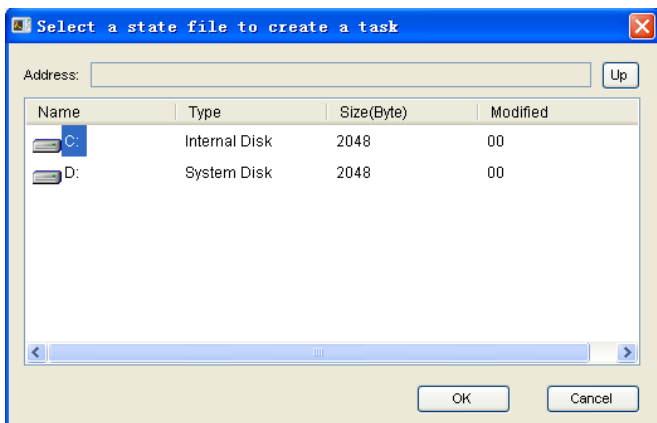

Figure 4. Select a state file
- Double click the "Driver C" in the "Select a state file to create a task" dialog box as shown in Figure 4